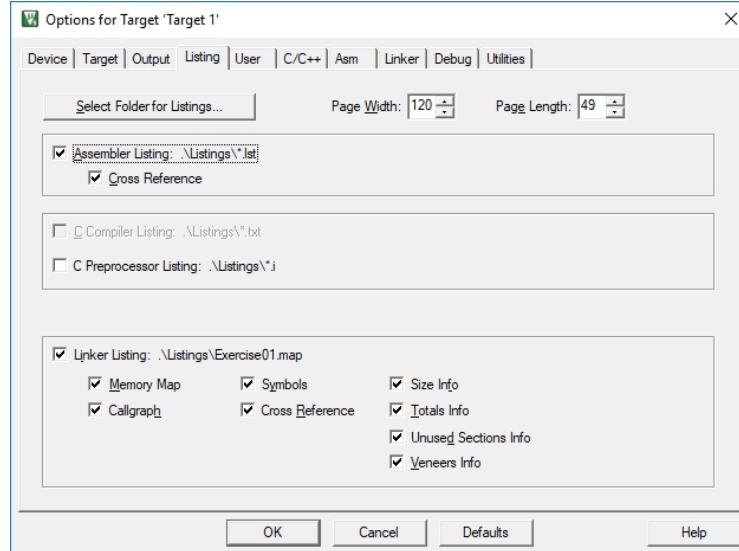

Figure 14. Setting Options for Listing File
- Click on the Listing tab along the top of the window to get the options shown in Figure 14.